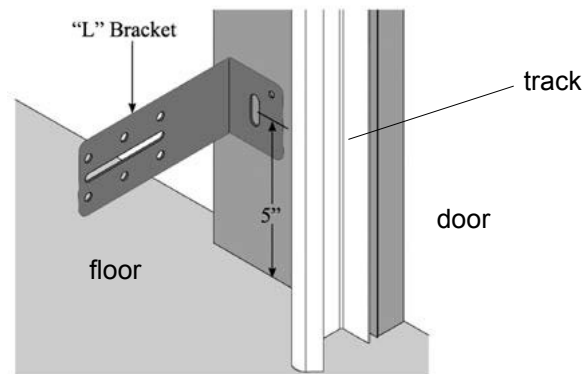

Figure 1 - "L" Bracket Installation
1. Select and mark a mounting location at 5" (15,7 cm) above the floor. The sensors should be mounted as close as possible to the door track or the inside edge of the door, to offer maximum entrapment protection, as seen in Figure 1. It is very important that both of the wall mounting brackets be mounted at the same height for proper alignment. Repeat this step and install the 2nd wall mounting L shape bracket to the opposite side of the door.